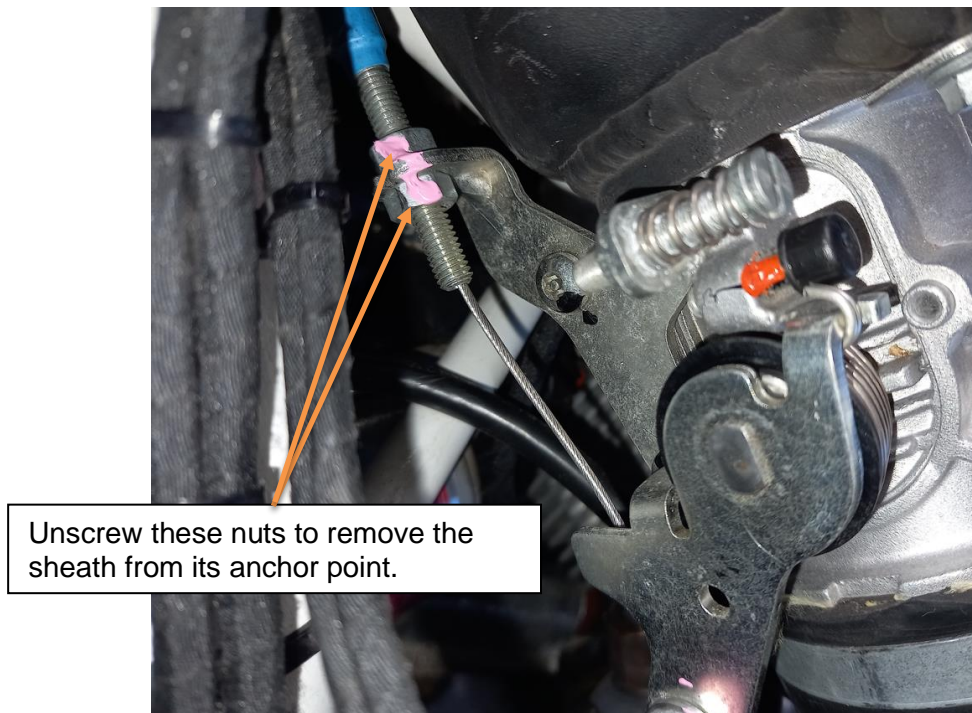

Figure 18
Step 12: In order to remove the throttle cable and sheath, it needs to be detached from the engine. To do so, unscrew the locking nuts that hold the sheath in place. Refer to Figure 18.